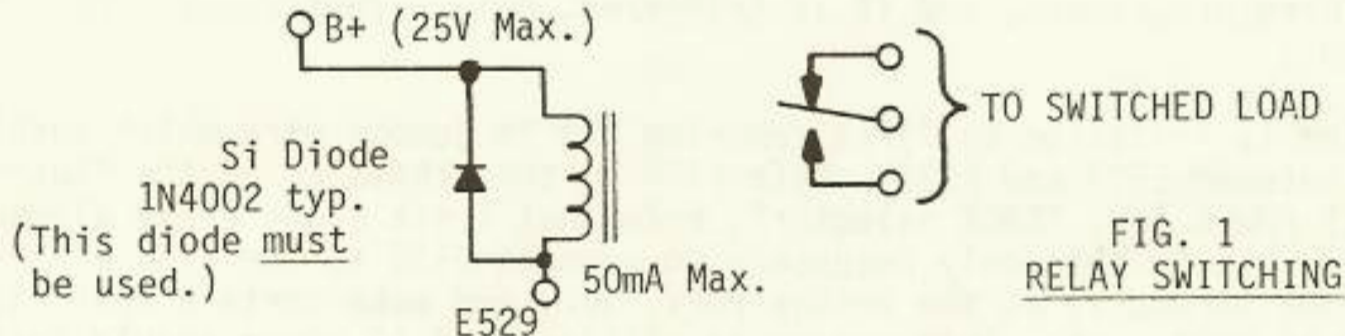

FIG. 1
- 4) Connect terminal E529 to the P.T.T. lead of the repeater or other transmitter, or to any other desired point in the control system which will activate the transmitter upon receipt of a switch closure to ground. E529 provides an open collector transistor switch closure to ground whenever an I.D. is in progress, and will hold the transmitter on for the duration of the I.D. cycle. E529 can switch a 50mA maximum load to within 1V of ground, and can withstand a maximum voltage of 25VDC. If the load to be switched exceeds these maximum limits, then E529 should be used to switch a relay, which in turn can switch the load. See Fig. 1 for typical relay hookup. If an opposite switching sense from the one described is desired (i.e., E529 goes high when I.D.'ing - low otherwise), then remove the E503 to E502 jumper wire, and jumper E503 to E504.